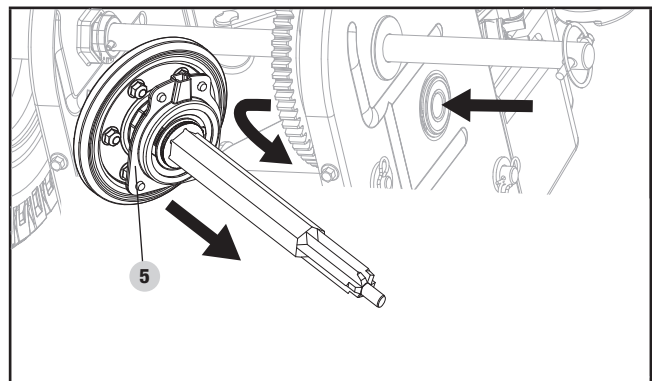

Figure 29
5. Carefully position the hex shaft downward and to the left before carefully sliding the friction disc assembly (5) off the shaft (Fig. 29).